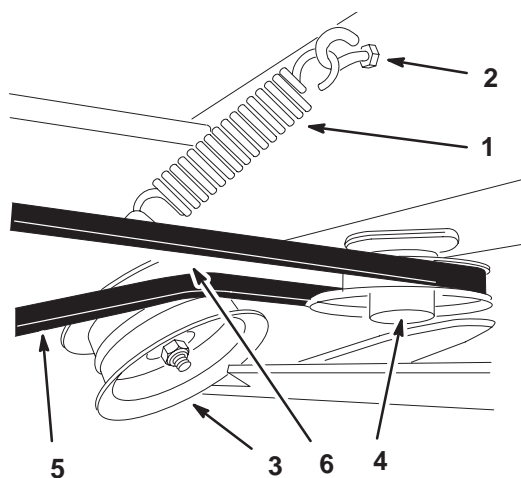

Figure 19
3. Route the bagger belt onto the bagger pulley (Figures 19 and 20).
4. Install the spring onto the idler arm (Fig. 19).
5. Install the tensioner spring onto the eyebolt attached to the bager (Fig. 19 and 22).